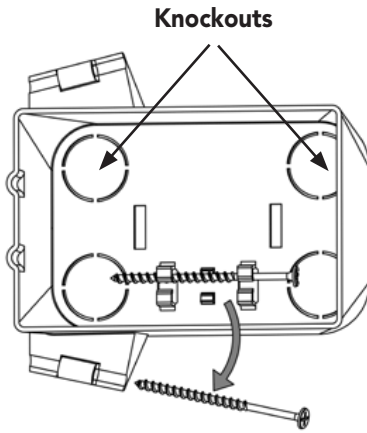

Figure 7
1. Remove the two screws from the interior clips of the junction box, and hand-screw them into the wings of the junction box (**Figure 7**).
2. Remove one of the four knockouts from the junction box (**Figure 7**). the resulting hole will allow routing of the 30-foot LED power cable.